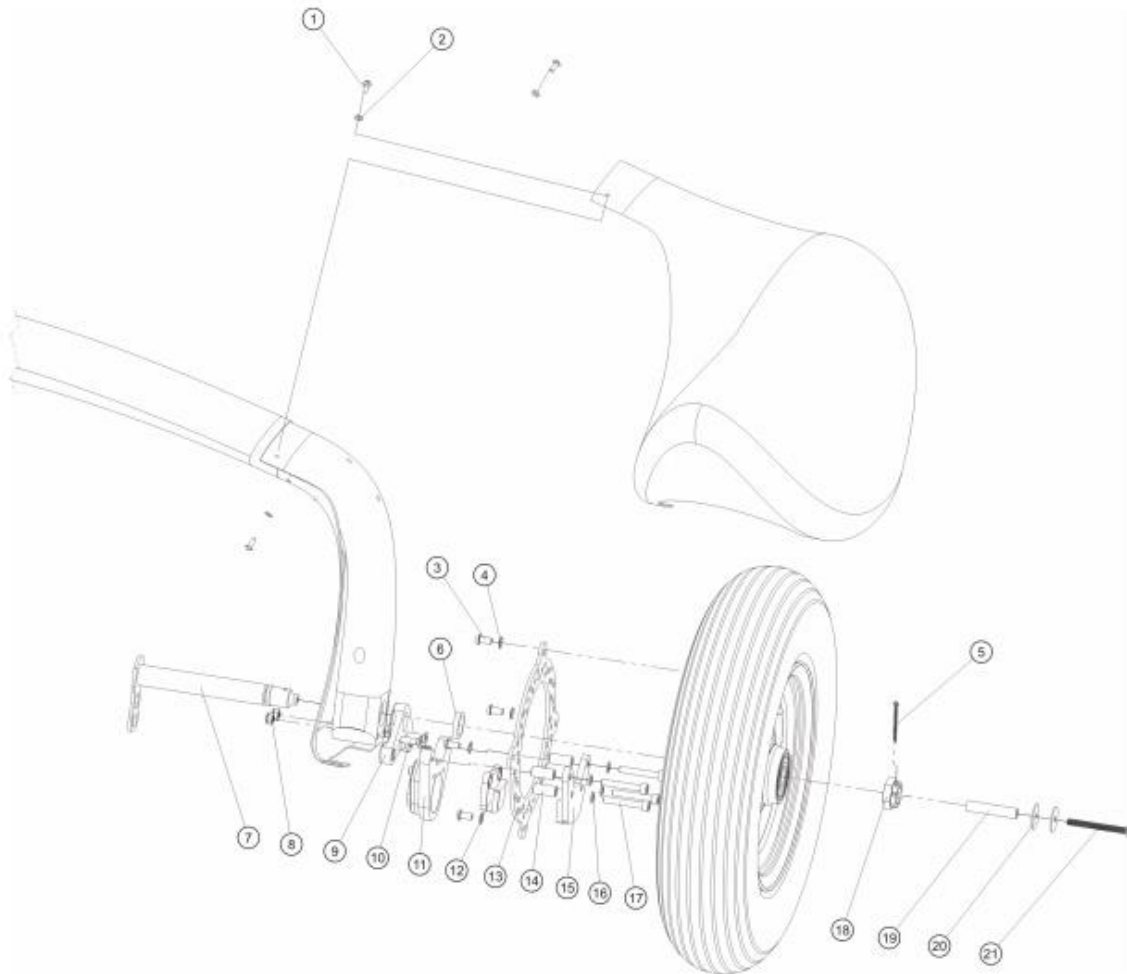

Fig. 3 - Main gear assembly
- 8 Unscrew and remove 4 x bolt (Fig. 3, 3) with serrated washer (Fig. 3, 4). Mind limited reusability of serrated washer!
- 9 Remove wheel from axle assembly (Fig. 3, 7/9).
- 10 Insert main wheel on axle assembly (Fig. 3, 7/9).
- 11 Insert 4 x bolt (Fig. 3, 3) with new serrated washer (Fig. 3, 4) and attach brake disc to main wheel.
- 12 Torque-tighten bolts (Fig. 3, 3) with 10 Nm in crosswise sequence.
- 13 Install castellated nut (Fig. 3, 18) and torque-tighten nut with 35 Nm.
- 14 Install split pin (Fig. 3, 5).